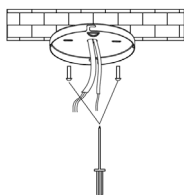

Fig. 2
2. Secure the mounting plate to the junction box. (Fig. 2)